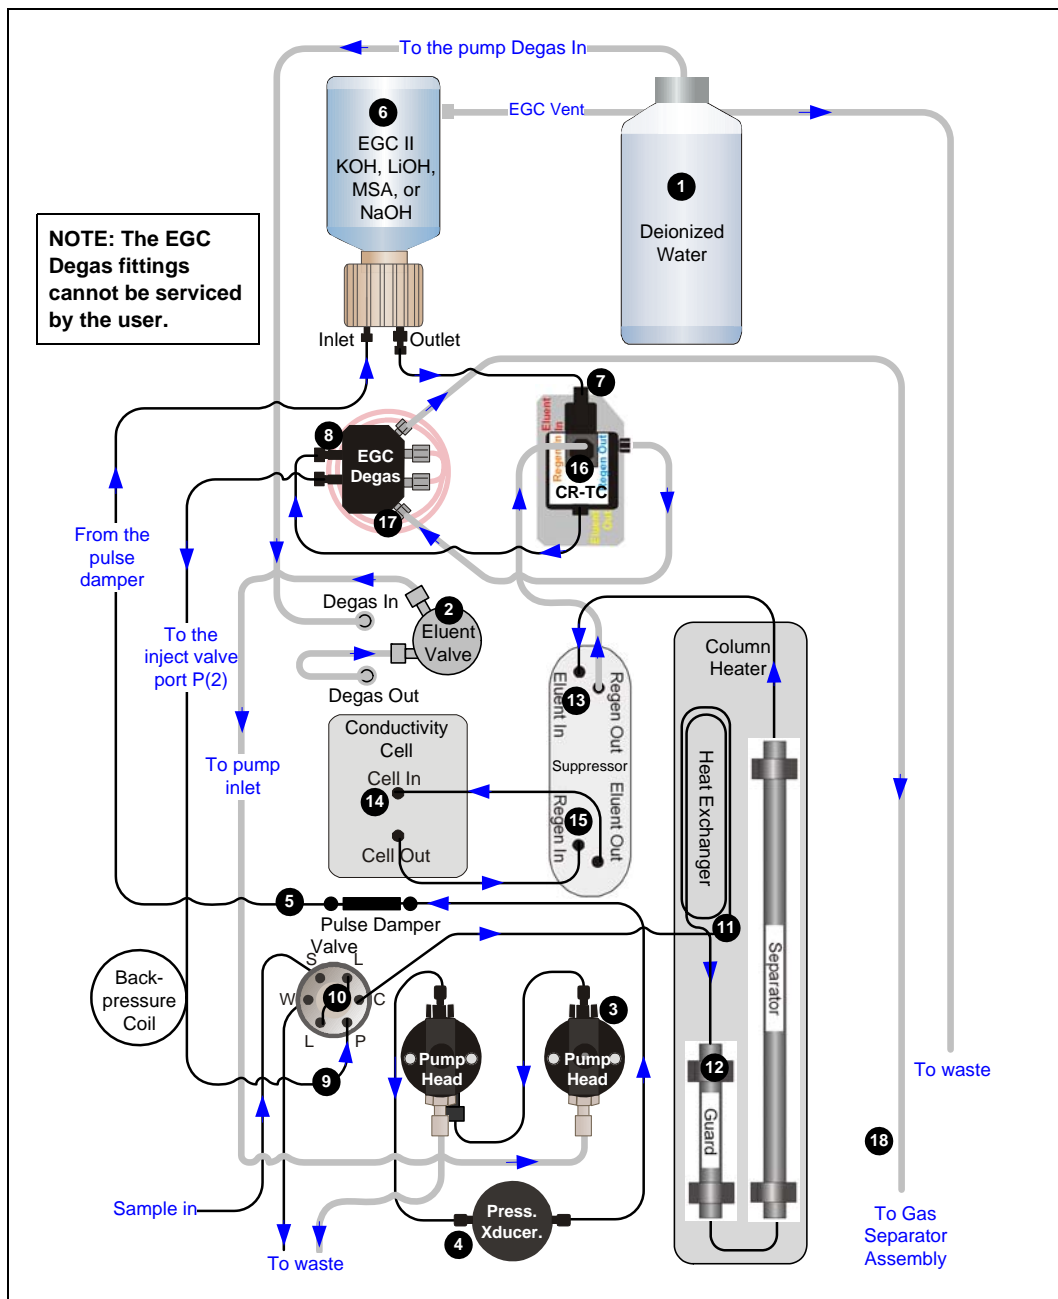
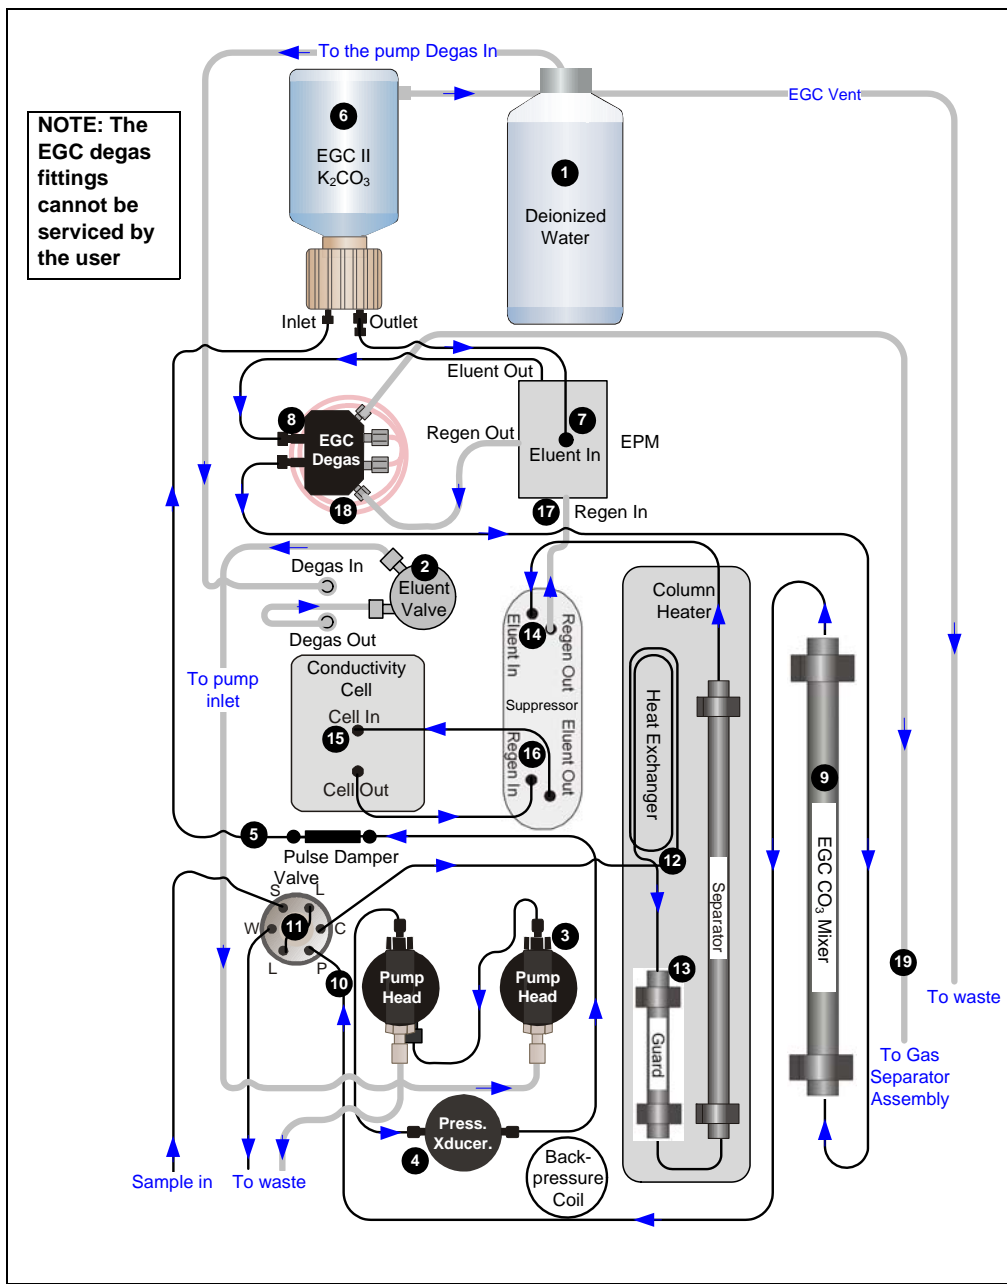
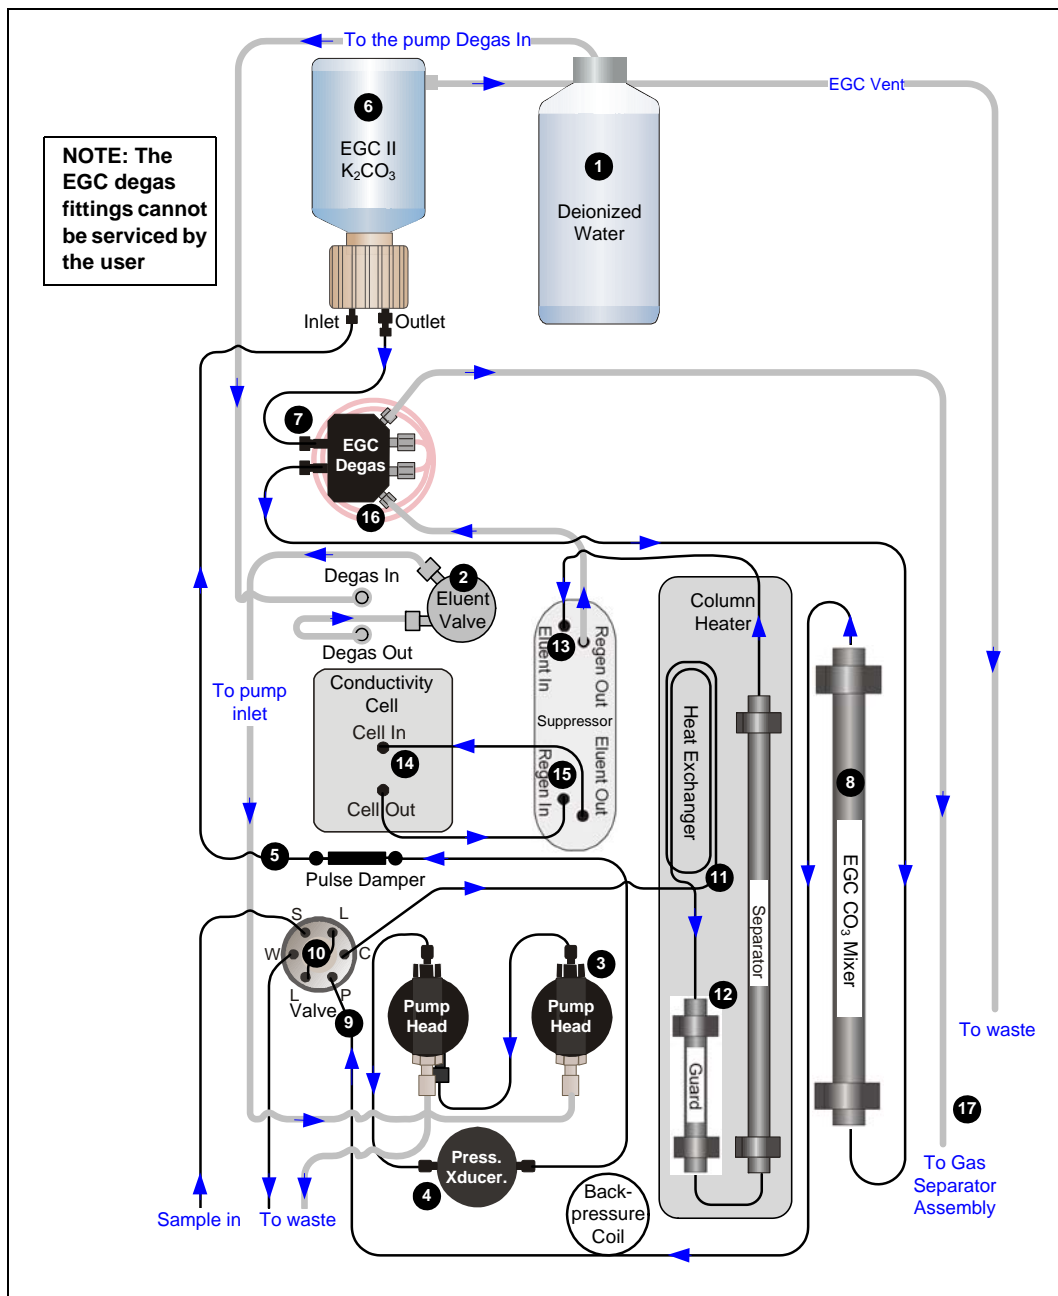

Figure 5-7. Dionex ICS-2100 Flow Schematic: KOH, LiOH, MSA, or NaOH Eluent Generation
Figure 5-8. Dionex ICS-2100 Flow Schematic: Carbonate/Bicarbonate Eluent Generation
Figure 5-9. Dionex ICS-2100 Flow Schematic: Carbonate Eluent Generation
2. Follow the flow schematics in Figure 5-7, Figure 5-8, or Figure 5-9 and work backward through the system, beginning at the suppressor **Regen Out** port. One at a time, loosen each fitting and observe the pressure. The connection at which the pressure drops abnormally indicates the point of restriction.